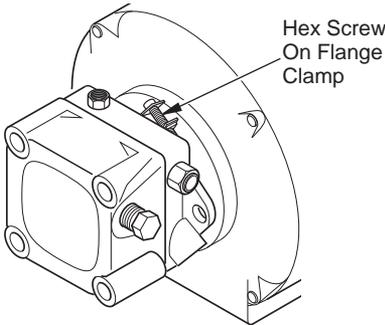

Figure 12 - Location of Screw on Flange Clamp
2. Loosen hex screw on flange clamp at rear of motor with 5/16" nut-driver (see Figure 12).